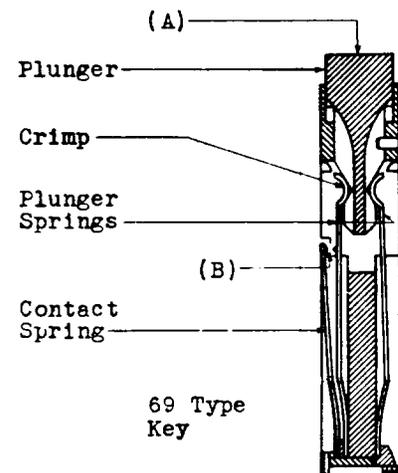

Fig. 1
2.02 *Plunger Movement* — Fig. 1(A) — The plunger shall operate freely and shall not bind or appear sluggish in restoring to normal. Gauge by eye and feel.
**\*2.04 Contact Separation:** Fig. 1(B) — (A3-, B11-, 69-, 242-, 492-, 508-, 521-, and 539-type Keys) — There shall be a separation between open contacts of